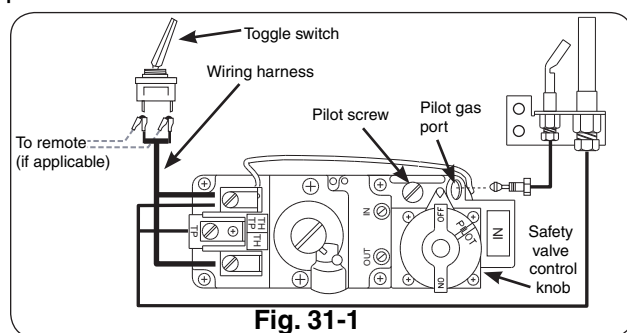

Fig. 31-1
To read the safety valve control knob (Fig. 31-1), read the marking nearest the teardrop-shaped metal pointer.
- b. If adjustment is necessary (Fig.31-1), turn the gas adjustment screw counterclockwise ↻ to increase the pilot flame, or clockwise ↻ to decrease the pilot flame.